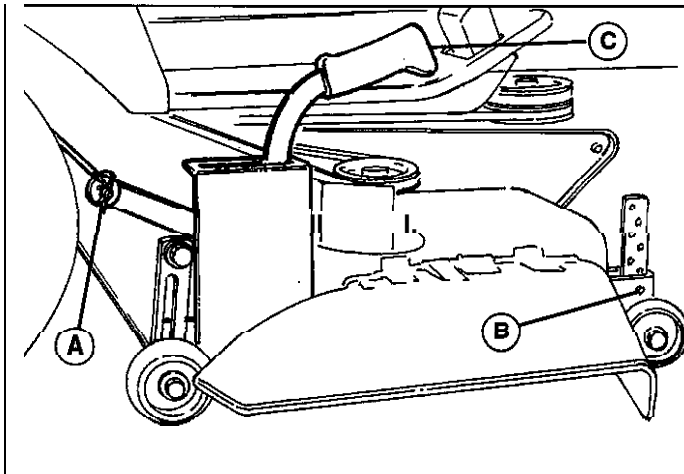
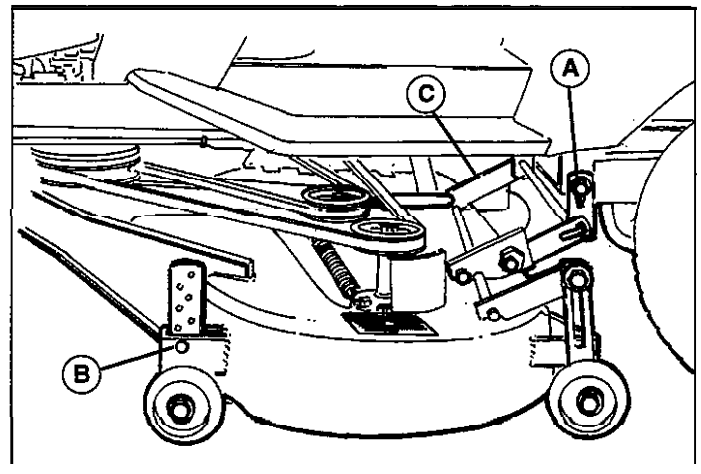

Figure 4. Mower Deck - Right Side
Figure 5. Mower Deck - Left Side
3. Remove clip (A, figure 4) from right side of rod. Pull rod (A, figure 5) out from left side.
4. Move lever (C, figure 5) towards the right side of tractor to release belt tension, then slide belt off of PTO pulley.
NOTE: When installing rod (A, figure 5), turning the front wheels slightly left or right helps to align the holes.